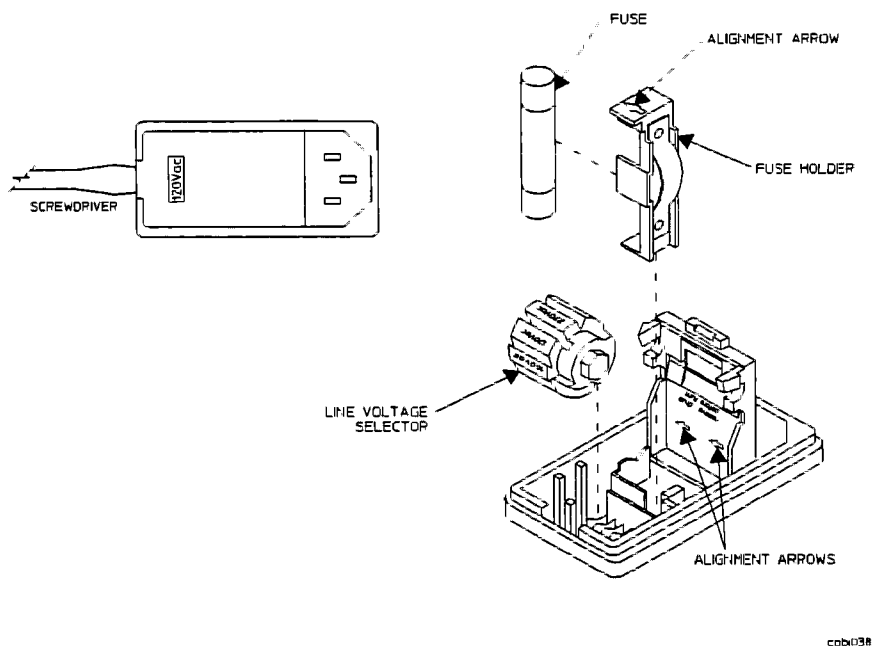

Figure 2-2. Test Set Voltage Selection and Fuse Replacement
The line-voltage selector switch is set at the factory to match the most commonly used line voltage of the country of destination; the appropriate fuse is also installed. To check or change either the line-voltage selector switch or the fuse, see figure 2-2, table 2-2, and the following procedures.
2. Using a small screw driver, pry open the power selector cover (see figure 2-2).